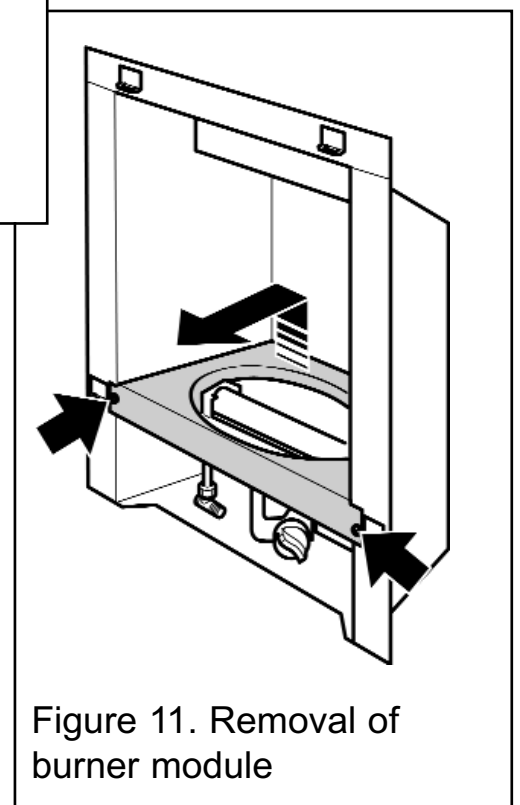

Figure 11. Removal of burner module
6. Remove the two screws to the side of the burner cover (See figure 11)
7. Detach the burner cover by lifting clear of the burner module (See figure 11)